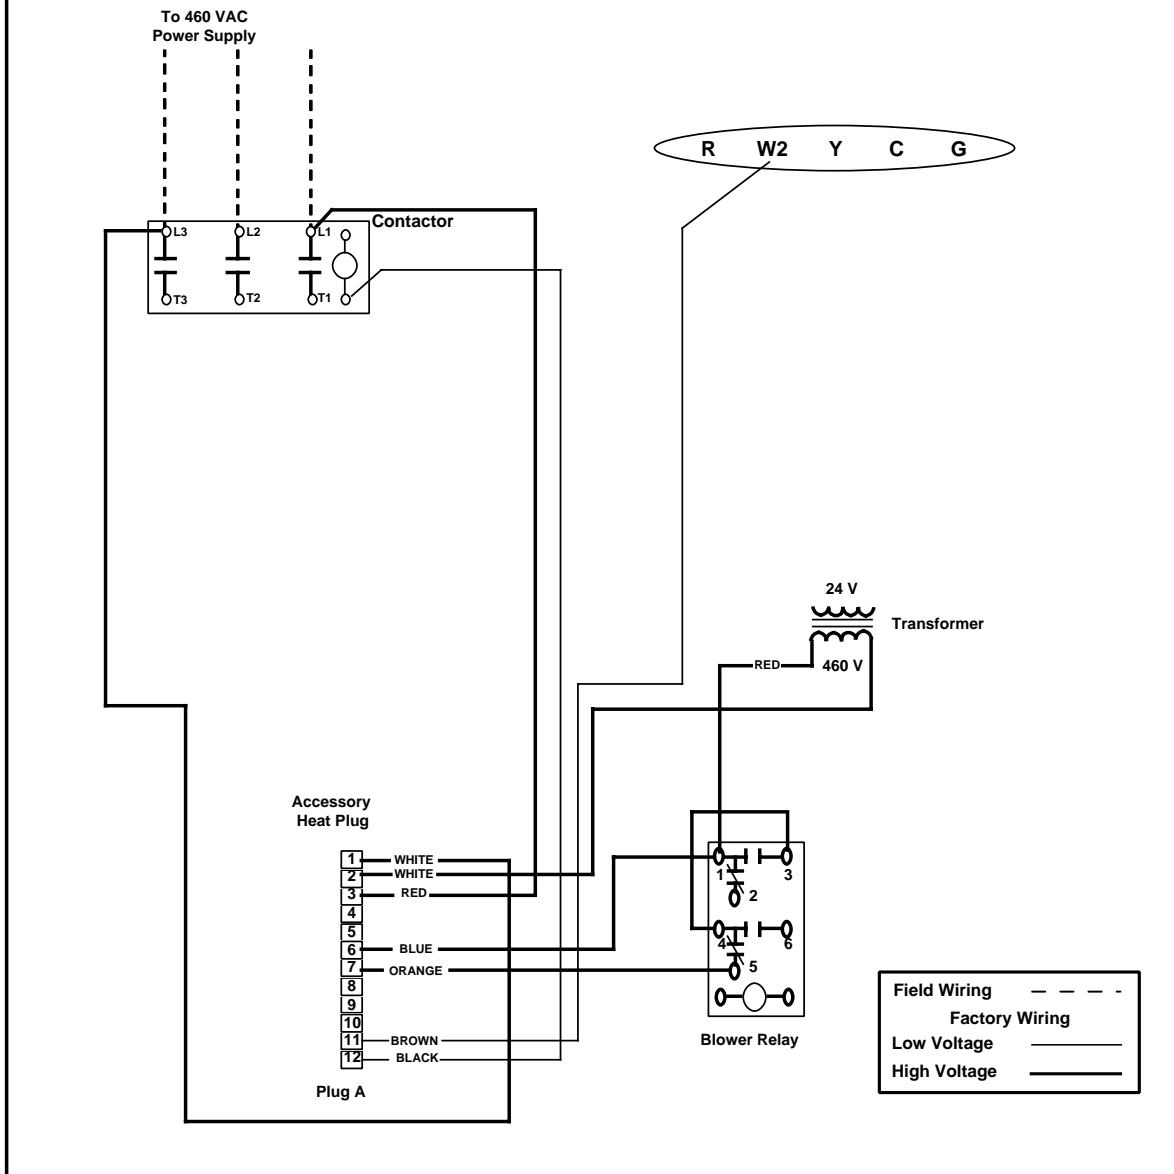

Figure 2. Convertible Packaged AC: Heater Kit Retrofit (Wires to Add)
4. Connect the piggyback terminal of the RED 4 inch jumper wire (included with this kit) to the #3 terminal on the Blower Relay. Connect the remaining side of the RED jumper wire to the #4 terminal on the Blower Relay. (See Figures 2 & 3.)
WIRING CHANGES FOR THE (*)P4 UNITS (Refer to Figure 2.)